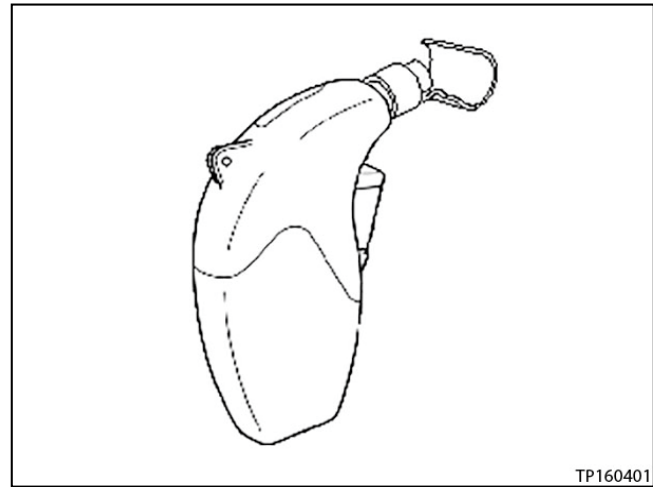

Figure 35
41. "Install" the solder sleeve connector by shrinking it to the wire with essential tool Flameless Heat Gun J-46538 or similar flameless heating tool (see Figures 35 and 36).